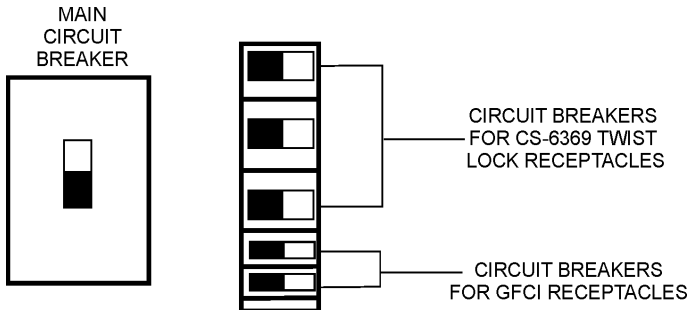

Figure 67. Main, Aux. and GFCI Circuit Breakers (OFF)
1. Place both the **MAIN**, **GFCI** and **LOAD** circuit breakers (Figure 67) to the "OFF" position".
1. Place both the **MAIN**, **GFCI** and **LOAD** circuit breakers as shown in Figure 67 to the "OFF" position".